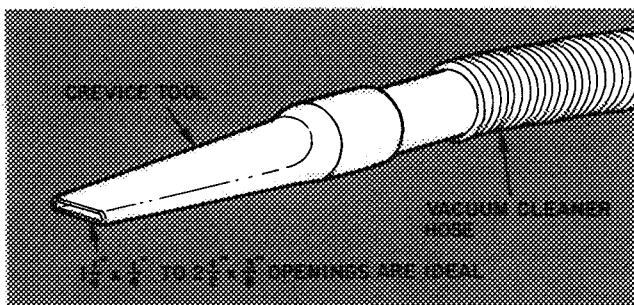

Fig. 10 — Crevice Cleaning Tool
- Clean coil using vacuum cleaner and its crevice tool (see Fig. 10). Work crevice tool *vertically* making sure tool only touches dirt on fins. To prevent fin damage, do not “scrub” fins with tool or move tool horizontally.